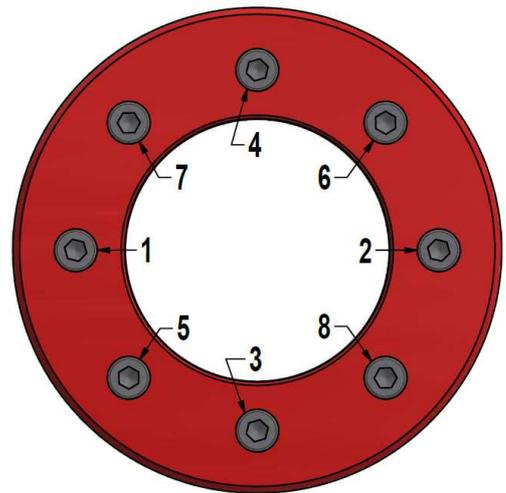

Fig. 5. Example of tightening pattern.
3. Tighten the screws by hand in a crosswise pattern (fig. 5) until fitting clearances with shaft and hub bore are bridged and connected components are slightly locked, while making sure that hub is aligned as required using a dial indicator.
4. Use a torque wrench set approx. 5% higher than the design tightening torque. **Progressively tighten the screws in a crosswise pattern (fig. 5), using approx. ¼ turns for several passes** until ¼ turns can no longer be achieved.